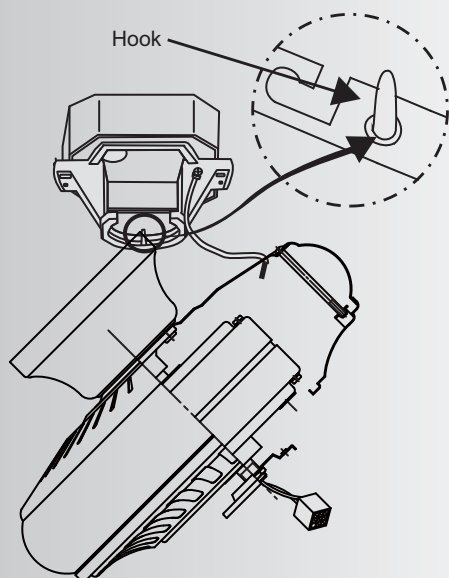

Fig. 11
Step 3. Hang the fan on the ceiling mounting bracket by inserting the hook on the inside edge of the ceiling mounting bracket through one of the screw holes in the ceiling canopy (Fig. 11). This will allow you to have both hands free to make the wiring connections.